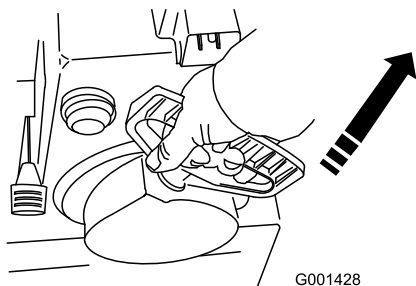

Figure 25
7. Pull the recoil starter (Figure 25).